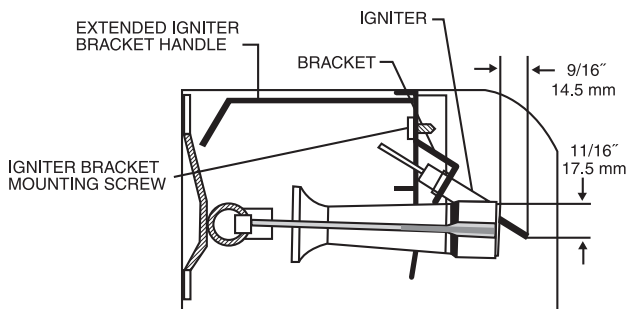

Fig. 13 - Igniter Bracket
- c. Using a 1/4-in. driver, remove the single screw securing the igniter bracket to the burner box bracket (See Fig. 13.) and carefully withdraw the igniter and bracket assembly through the front of the burner box without striking the igniter on surrounding parts. Note that the
igniter bracket has a handle that extends to the front of the burner box to aid in handling. (See Fig. 13.)